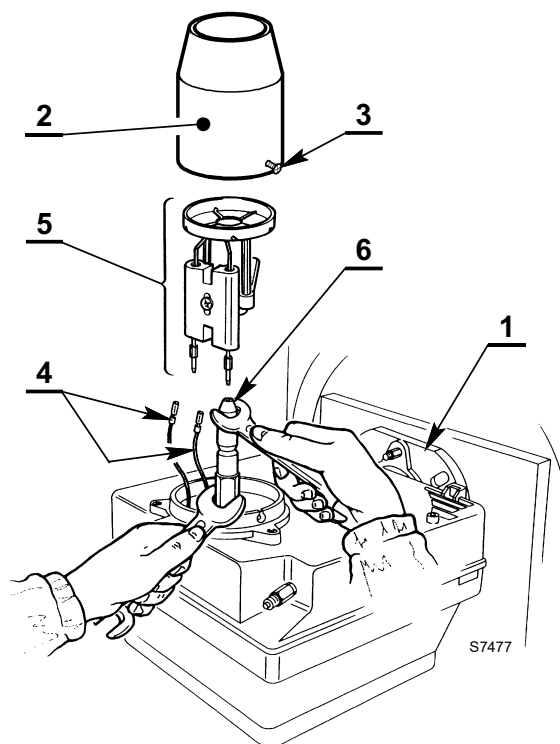
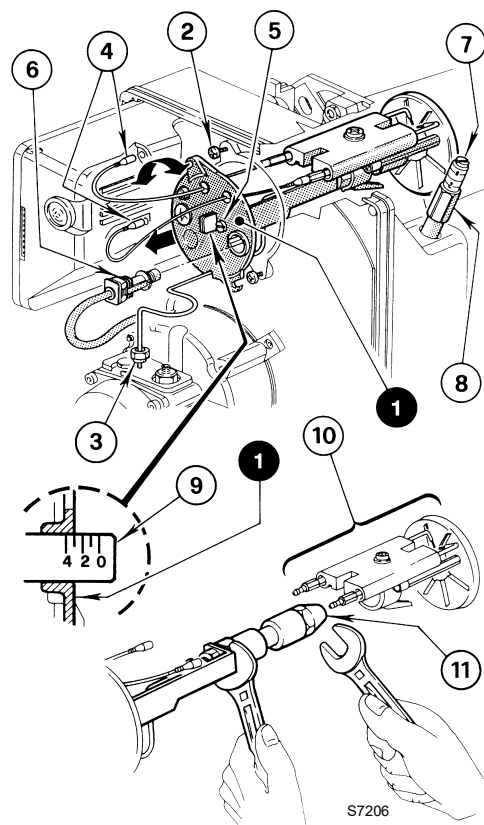
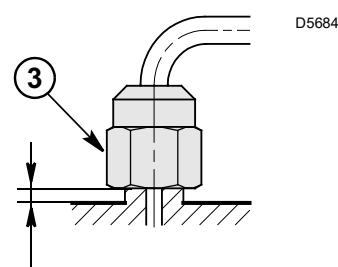
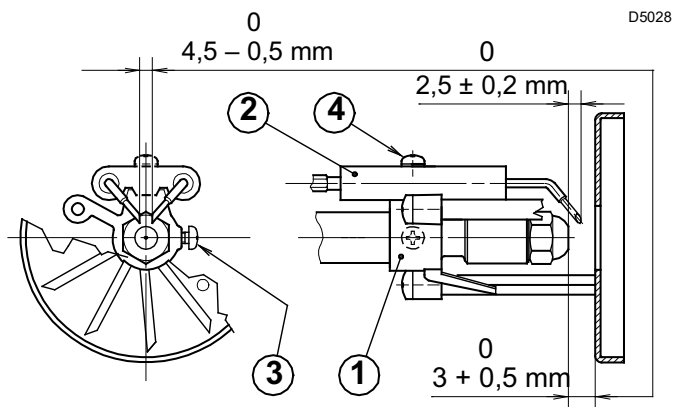

Fig. 12
Fig. 13
Fig. 14
Fig. 15
- Hook the burner to the flange (1), by removing the blast tube (2) after loosing the fixing screws (3).
- Remove the small cables (4) from the electrodes and the diffuser disc-holder assembly (5) from the nozzle-holder assembly after loosing its fixing screw (3).
- **Screw the nozzle (6) correctly and tighten it as shown in Fig. 12.**
- Remove nozzle-holder assembly (1) after loosing screws (2) and nut (3), remove the small cables (4) from the flame control and the flame sensor (6).
- Withdraw the small cables (4) from the electrodes, remove the diffuser disc-holder assembly (10) from the nozzle-holder assembly (1) after loosing screw (3).
- **Screw the nozzle (11) correctly and tighten it as shown in Fig. 13.**
When refitting the nozzle-holder assembly (1, Fig. 13) **screw on nut (3) without tightening it all the way** with a driving torque of 15 Nm, as illustrated in Fig. 14.
Fig. 13, on page 9 illustrates the combustion head adjusted for a delivery of 0.75 GPH at 12 bar. The set-point 3 of the regulating rod (9) is at the same level with the outside plane of the nozzle-holder assembly (1) as shown in Tab. E, on page 8.
- To adjust air damper, proceed as follows: (Fig. 13, on page 9):
- Loosen nut (8) and adjust damper setting with the aid of the screw (7).
- Once you have finished adjusting, screw nut (8) back on.
- Replace the nozzle, (Fig. 12, on page 9) and check the correct position of electrodes (Fig. 15, on page 10).